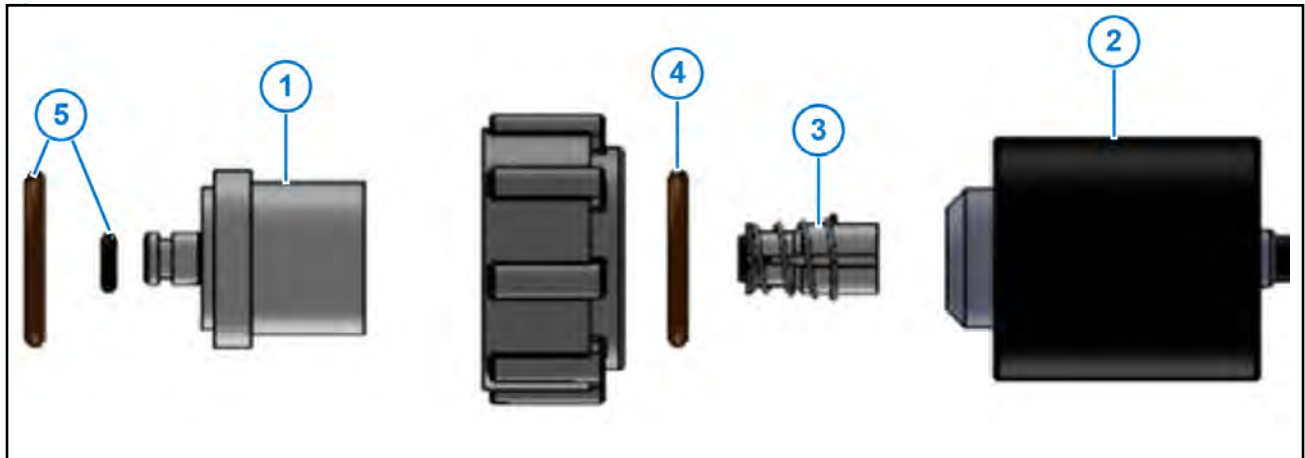

Figure 48: Nozzle Valve
2. Use pliers or other appropriate tool to hold the valve body (Figure 48, Item 1) so that the assembly coil harness faces the ground.
3. Rotate the coil (Figure 48, Item 2) counter-clockwise to remove the coil from the valve body.
4. Remove the plunger (Figure 48, Item 3) from the coil.
5. Inspect the O-ring (Figure 48, Item 4) on the coil.
6. Inspect the O-rings (Figure 48, Item 5) on the valve body.